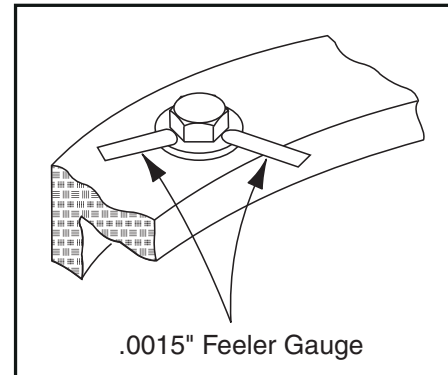

Figure 3-42. Swing Bearing Bolt Feeler Gauge Check
- b. At the positions indicated on Figure 3-42, try and insert the 0.0015" feeler gauge between the bolt head and hardened washer at the arrow indicated position.
- d. At the position indicated on Figure 3-42, try and insert the 0.0015" feeler gauge between the bolt